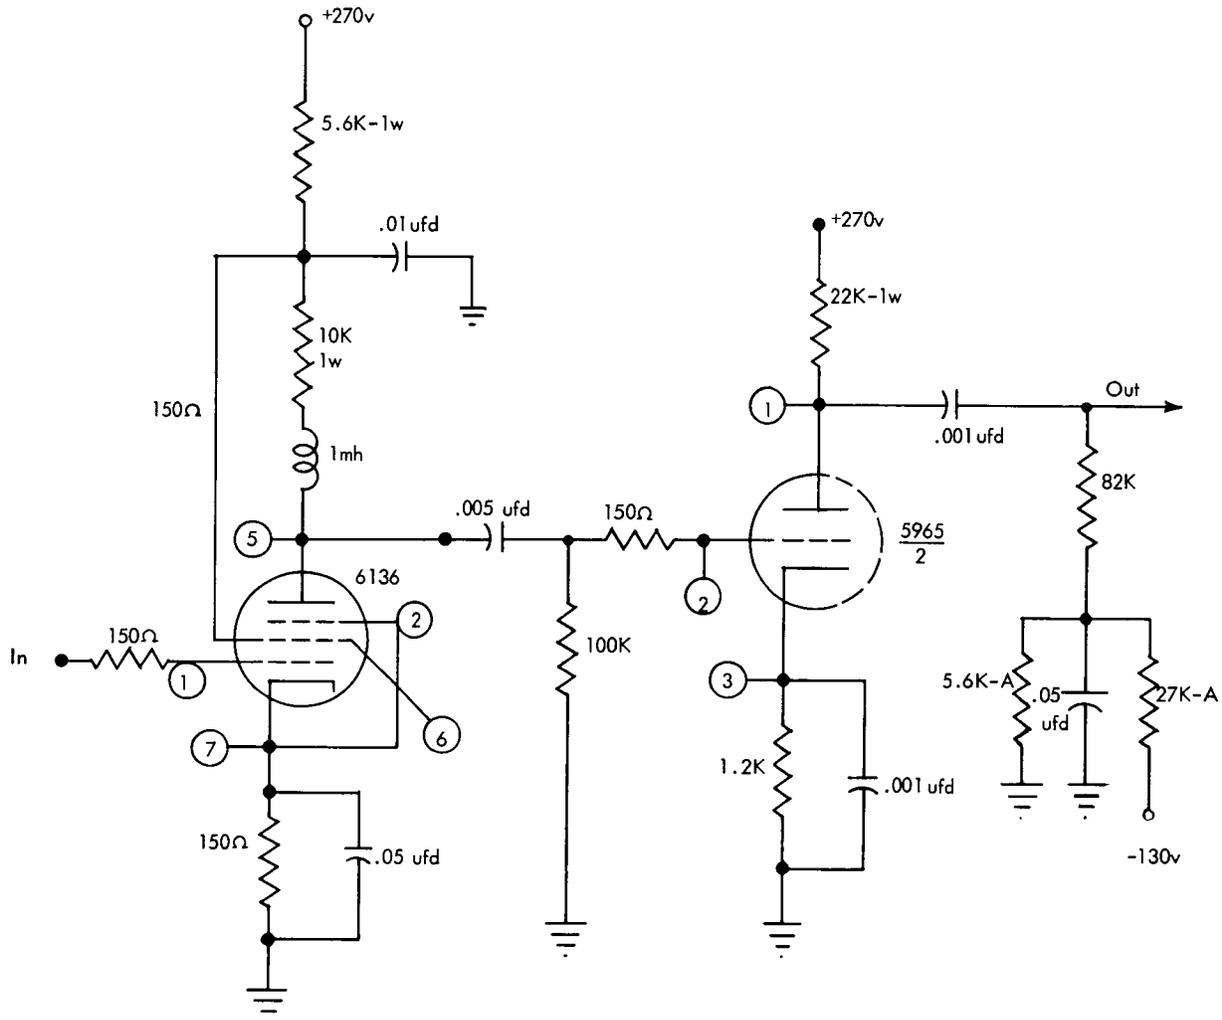

FIGURE D42. READ AMPLIFIER, CORE - ARC
The read amplifier (core), ARC, (Figure D42) is used to sense the output of the buffer memory in the 760. The ARC is composed of a pentode driving a triode which in turn is AC-coupled to a standard cathode follower (K). The input of the ARC is the rectified output of a pulse transformer. The rectifier is composed of the secondary of the pulse transformer and two type F diodes. The rectified signal is applied to the grid of the class-A-operated triode-connected pentode. The bias for this stage is obtained by a by-passed cathode resistor.